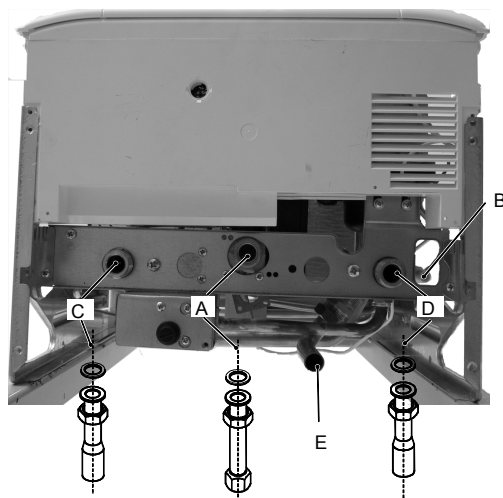

Figure 10.1
The Riva boiler is supplied with a 3/4" stainless steel gas pipe (A in figure 10.1), 2 - 3/4" copper pipe (C,D in figure 10.1), located in a plastic bag in the boiler package.
- Remove the protective caps off boiler connections (Figure 10.1).
- Attach the supplied components to the boiler connections (see Figures 10.1). Be sure to use the proper gaskets for the pipe connections.